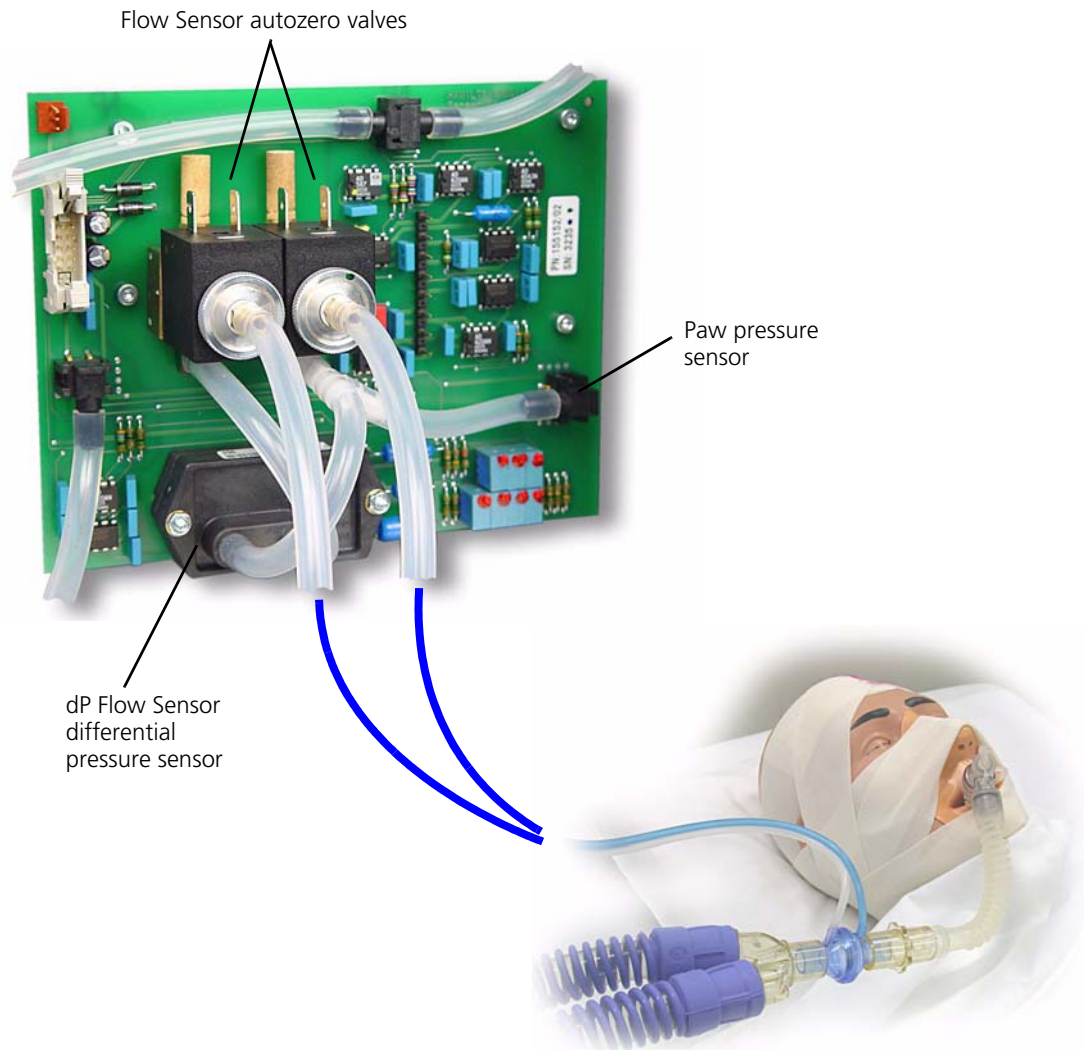
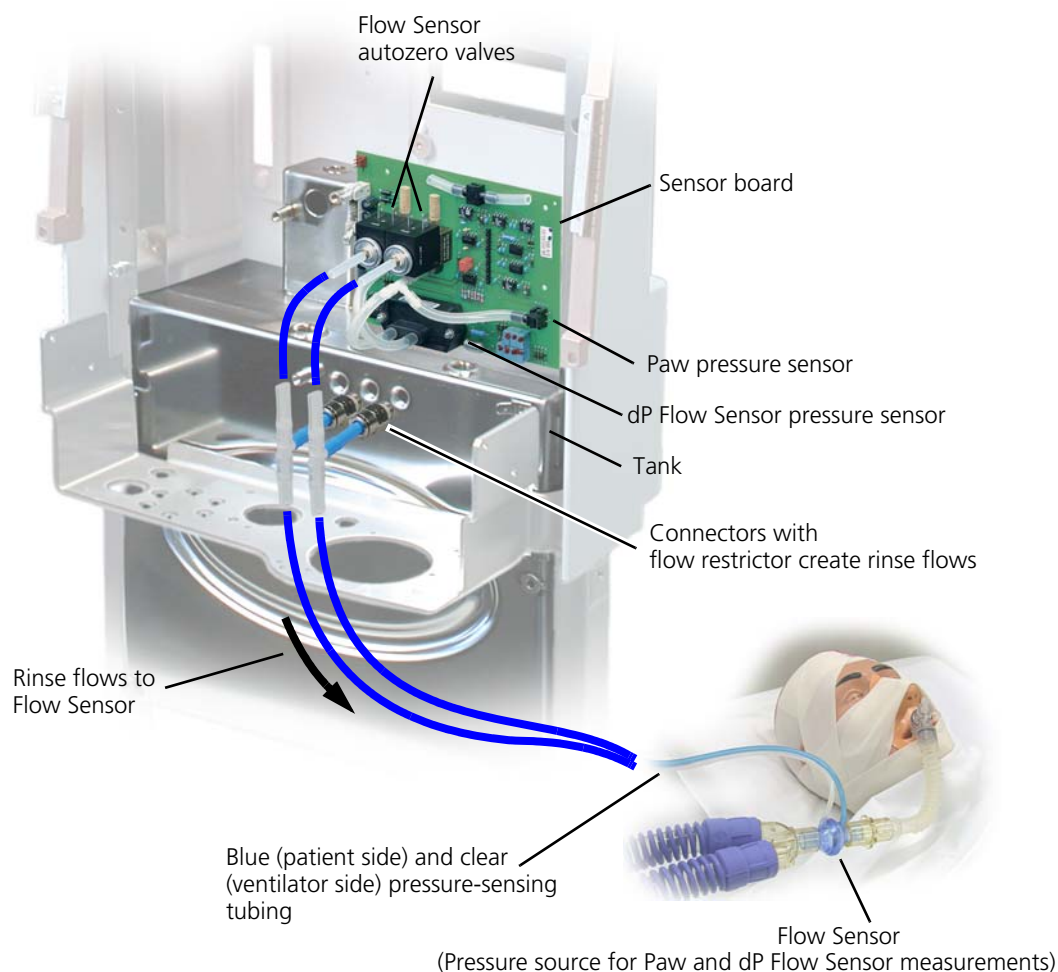

Figure 11-88. The Flow Sensor and pressure sensors on the sensor board
Figure 11-89. Details of the Flow Sensor connections to GALILEO
For GALILEO to measure the pressure difference between the chambers, each chamber in the Flow Sensor is connected to GALILEO by a length of small-diameter tubing. One tube is blue (patient side), and one is clear (ventilator side). These are shown in Figure 11-88.
- Each tube is connected through the Flow Sensor autozero valves to one side of the *dP Flow Sensor differential pressure sensor*. (Figure 11-88.) This measures the difference in pressure between the two tubes. GALILEO calculates the gas flow from this measurement.
- The chamber nearest the patient (blue tube) also connects to the *Paw pressure sensor*. (Figure 11-88.) This measures the absolute pressure in the blue tube, and therefore the patient airway pressure.
The sensing tubes must always be positioned uppermost as shown in Figure 11-88 on page 11-80 so that fluid cannot drain into them. The tubes must not be kinked.
The rinse flow is created by the two flow restrictors shown in Figure 11-89 on page 11-82.
During autozeroing, the flow sensor autozero valves (Figure 11-89 and Figure 11-88) open, to expose both sides of the *dP Flow Sensor differential pressure sensor*, and the single side of the *Paw pressure sensor* to ambient air pressure. While the valves are open, GALILEO measures the signal from the sensors, and notes the drift from their specified values. It later uses these known drifts as offsets when converting the electrical signal from the sensors to a pressure value.